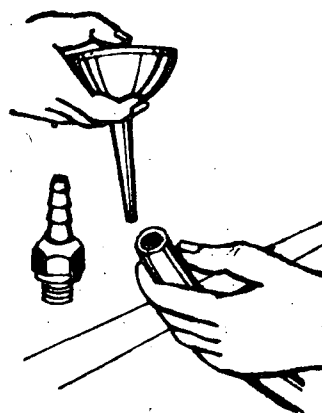

Fig. 3
- a) Cut a length of hose. Lubricate the inside of it. Also lubricate the outside of the nipple of the swivel (Fig. 3).